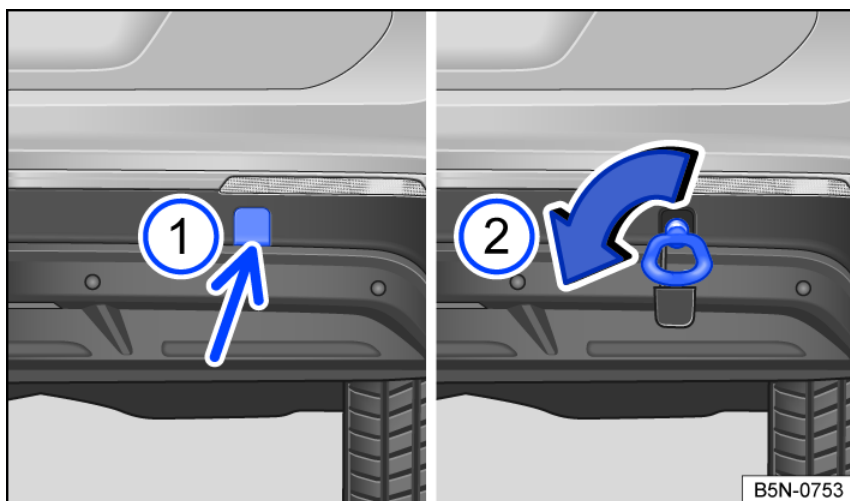

Fig. 189 In the right rear bumper: threaded towing eye.
- Press on the lower section of the cover (arrow) to release the lock on the cover fig. 189 ①.
- Rotate the towing eye **counterclockwise** as far as possible to install it in the mount fig. 189 ② ⇒ ⚠. Use a suitable object to tighten the towing eye completely and securely in the mount.